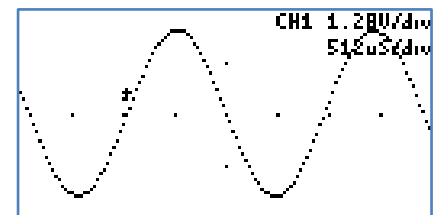

Figure 46: Pixel Display
- **Pixel:** A single pixel represents a sample. The pixel display is useful at slow sampling rates or when used in combination with the persistent mode. Figure 46 shows the pixel display.